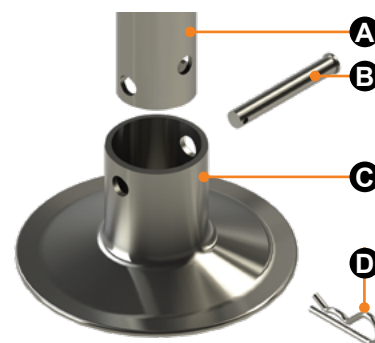

Fig.8
1. For all 4 C-Jack locations, align the C-Jack mounting holes with the holes on the I-beam mounting bracket across the frame roadside to curbside (**Fig.8**).